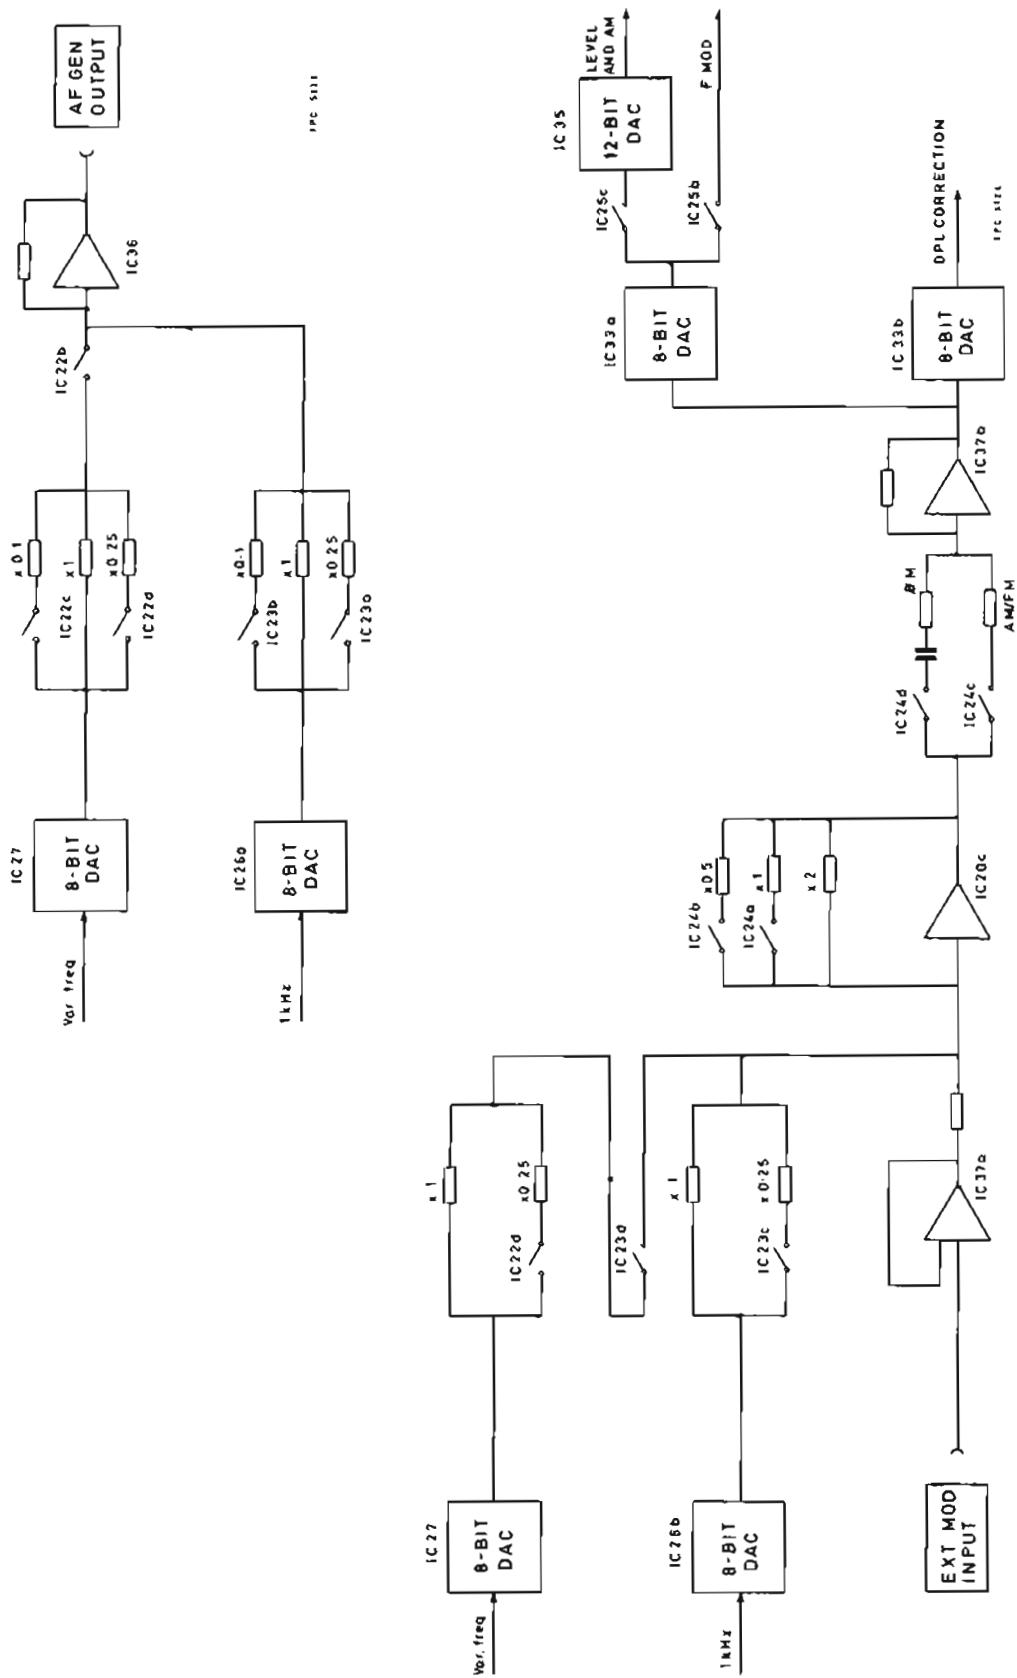

Fig. 7 Level control switching - AB6
67. The signals are further ranged using switched gain amplifiers IC36 and IC20c to give $x1$, $x0.25$ and $x0.1$ at the front panel AF GEN OUTPUT socket and $x1$ and 0.25 into the modulation section (see Fig. 7).